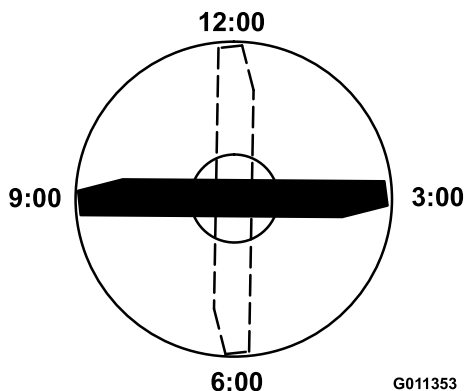

Figure 98
4. Position the cutting edge of the marked end of the blade at 12 o'clock (straight ahead in the direction of mowing) (Figure 98) and measure height from table to cutting edge of blade.
5. Rotate the marked end of the blade to the 3 and 9 o'clock positions (Figure 98) and measure the heights.